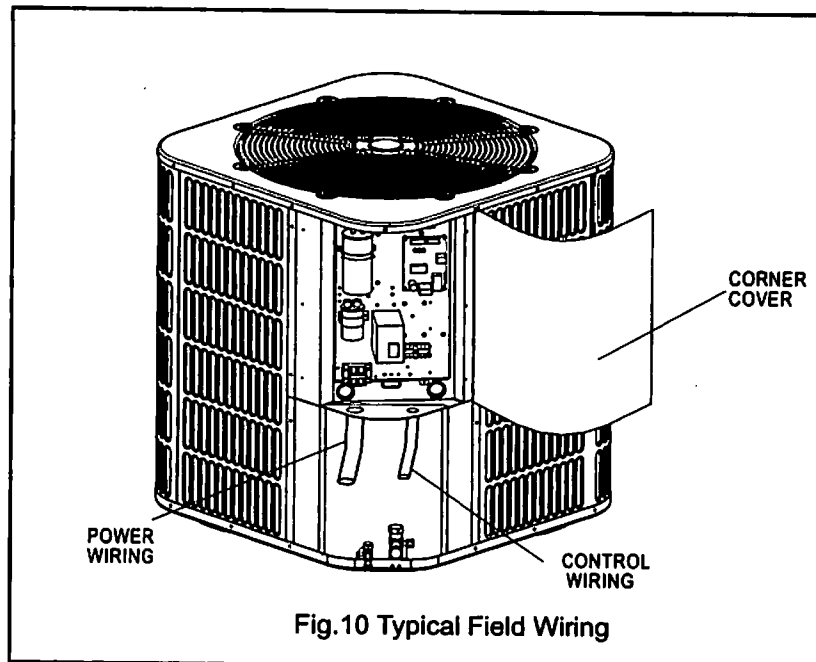

Fig.10 Typical Field Wiring
2. Remove the screws at the side of the corner cover. Slide corner cover down and remove from unit. See Fig. 10.